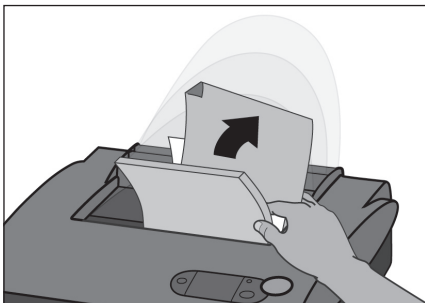

FIGURE 15
4. **Remove Page.** When the clamps open, immediately remove the dog-eared page (with the document still in the binder) by grasping that folded corner and gently but firmly peeling it away from the spine from left to right. (fig. 15)